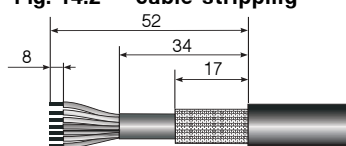

Fig. 14.3 Crimping of conductors
1. Insert conductor into the connection opening of the plug pin (11).
2. Crimp on all conductors using crimping tool (-> Accessories) (Fig. 14.3) or solder all conductors to plug pins and pull shrink-on sleeve over each solde ring point.
2. Crimp on all conductors using crimping tool (-> Accessories) (Fig. 14.3) or solder all conductors to contact sockets and pull shrink-on sleeve over each soldering point.